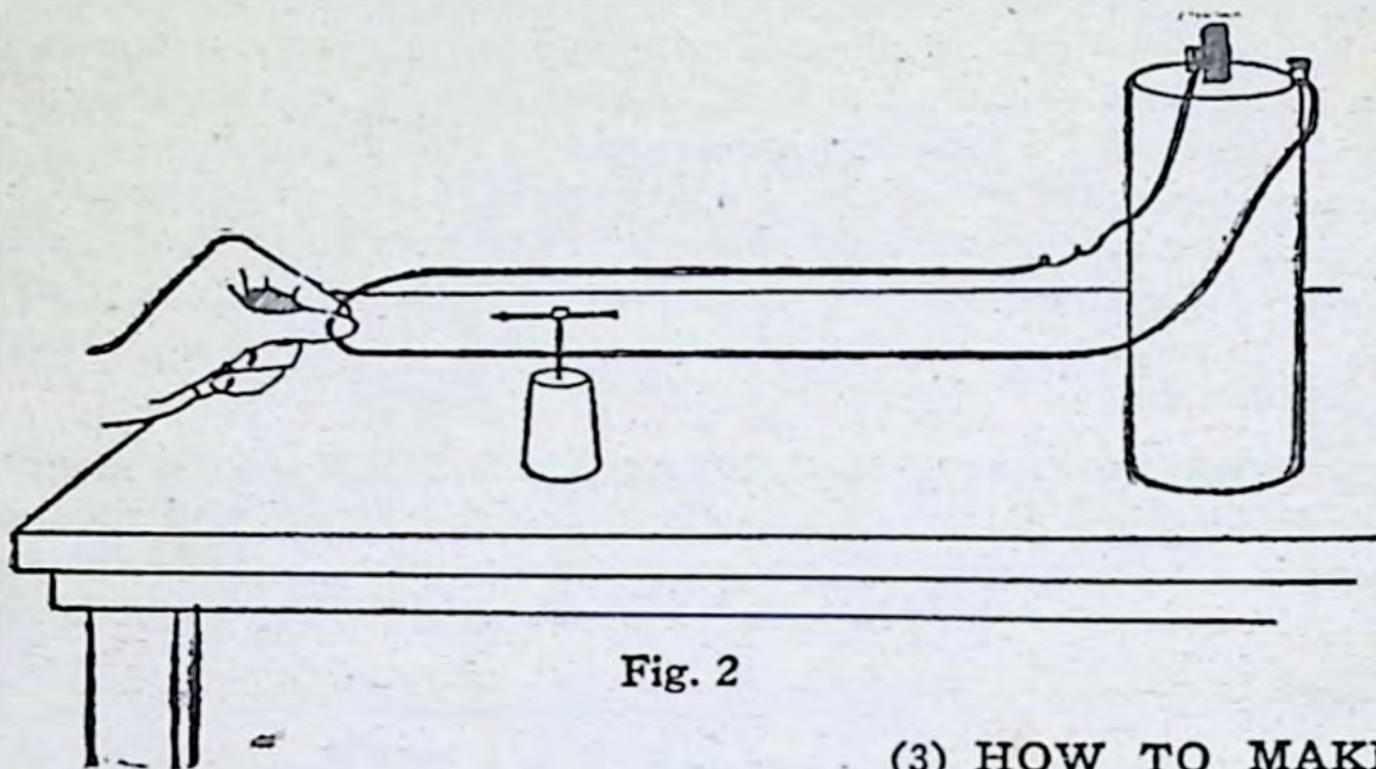

Fig. 2
(2) **HOW TO MAKE MAGNETISM OUT OF ELECTRICITY:** To make magnetism out of electricity, connect one end of a loop of wire to one of the binding posts of a dry cell or a battery, as shown in Fig. 2,